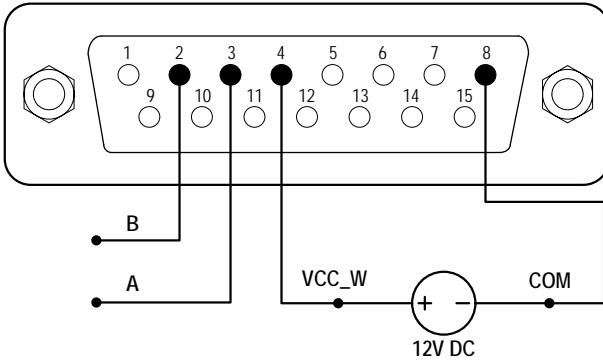

Figure 55 Control Start/Stop with an External 12V Power Source
- 1) Turn the power off. Wire the DB15 connector as shown in Figure 55